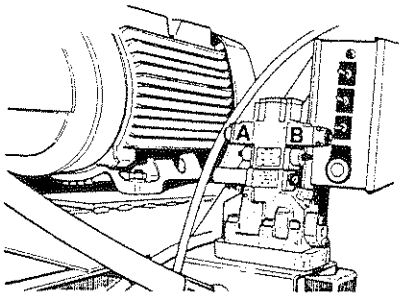

Fig. 34 Plunger direction control valve
3. **RETRACT CYLINDER ≈6 IN** Press the solenoid A button on the plunger direction control valve (fig. 34) until the plunger retracts by about 6 inches.